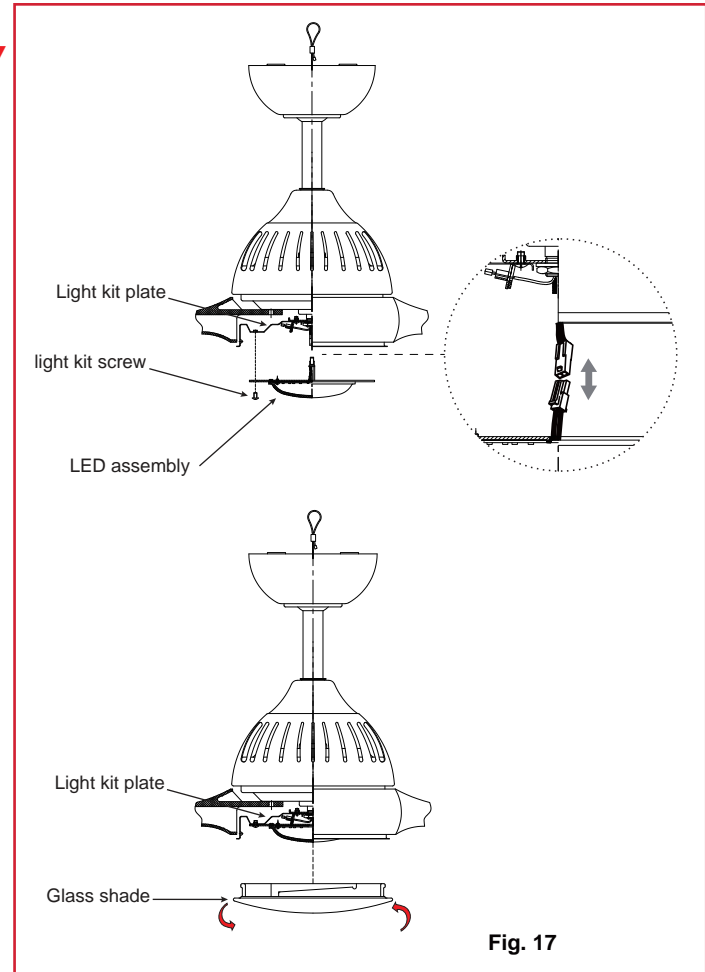

Fig. 17
Step 1. While holding the LED assembly under your fan, firmly snap the wire connection plugs together.(Fig.17)
Step 2. Position the LED assembly on the light kit plate and ensure the screw holes are properly aligned.(Fig.17)
Step 3. Secure the LED assembly by replacing the three light kit plate screws previously removed. Tighten all screws securely.(Fig.17)
Step 4. Attach the glass shade to the light kit plate by twisting tightly.(Fig.17)